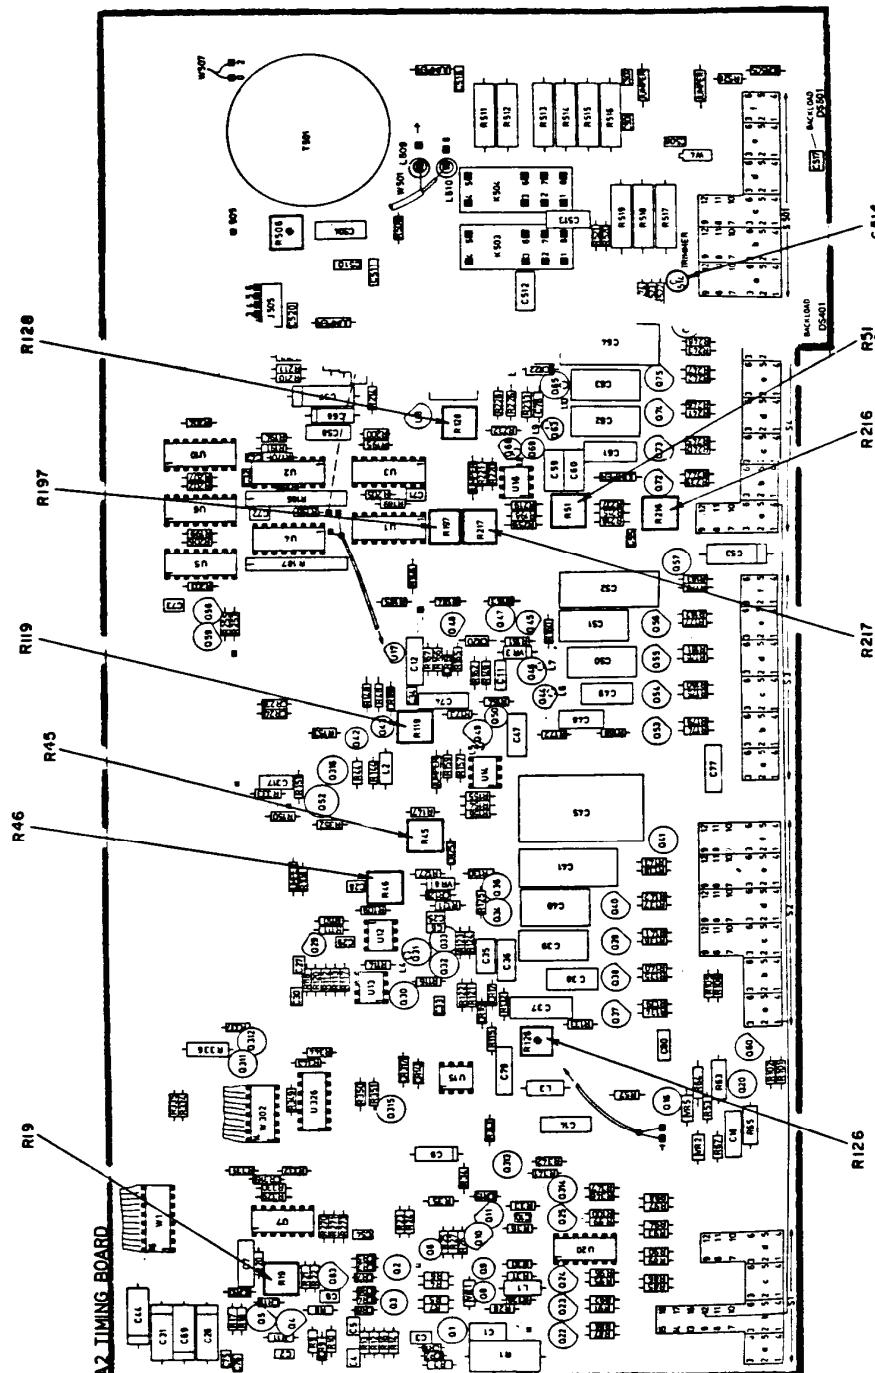
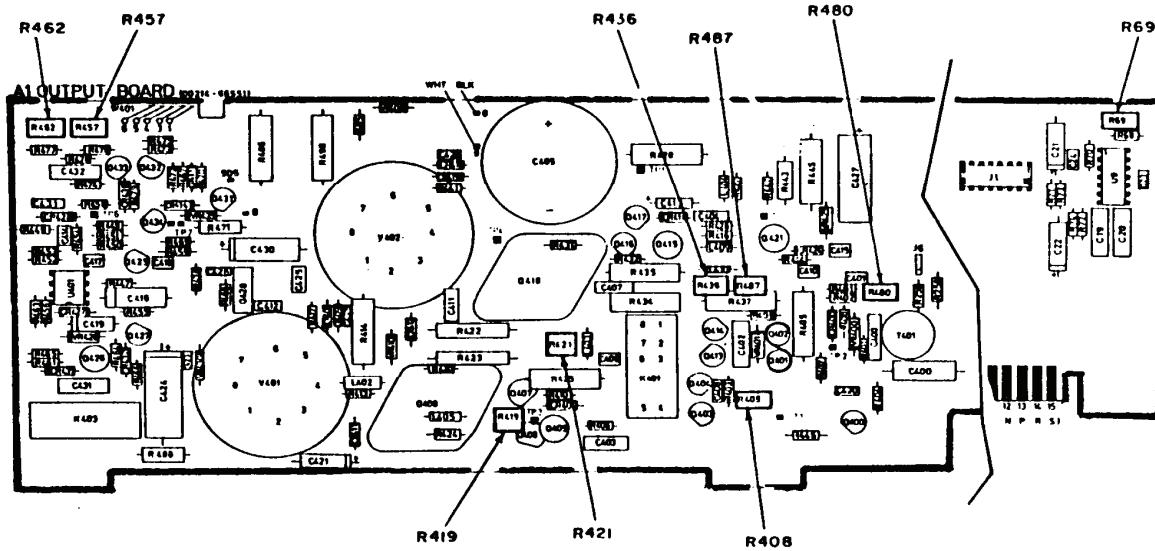

Figure 1. A2 (timing board) adjustment locations (top forward view).
Figure 2. A1 (amplifier board) - adjustment locations.
- (1) Position controls as listed in (a) through (g) below:
- (2) Adjust R126 (fig. 1) for 12.5 MHz indication on frequency counter (R).
- (3) Set **PERIOD VERNIER** dial to **1** and then to **10**. If frequency counter does not indicate between 8.9 and 11.1 MHz for vernier setting of 1, and between 0.8 and 1.2 MHz at 10, readjust R126.
- (4) Position controls as listed in (a) through (e) below:
- (5) Adjust R69 (fig. 2) for a frequency counter indication of 1000 μs (R).
- (6) Set **PERIOD VERNIER** dial to **1**.
- (7) Adjust R46 (fig. 1) for a frequency counter indication of 100 μs (R).
- (8) Set **PERIOD VERNIER** dial to **10** and repeat (5) through (7) above for best intolerance condition.
(2) Connect **TRIG OUTPUT** to frequency counter input, using 50 Ω termination. Connect **OUTPUT** to frequency counter **B** input.
(3) Adjust R45 (fig. 1) for a frequency counter indication between 990 and 1010 μ s (R).
(4) Set **PULSE POSITION VERNIER** dial to **1**. Adjust R119 (fig. 1) for a frequency counter indication between 90 and 110 μ s (R).
(5) Set **PULSE POSITION VERNIER** dial to **10** and repeat (3) and (4) above for best in-tolerance condition.